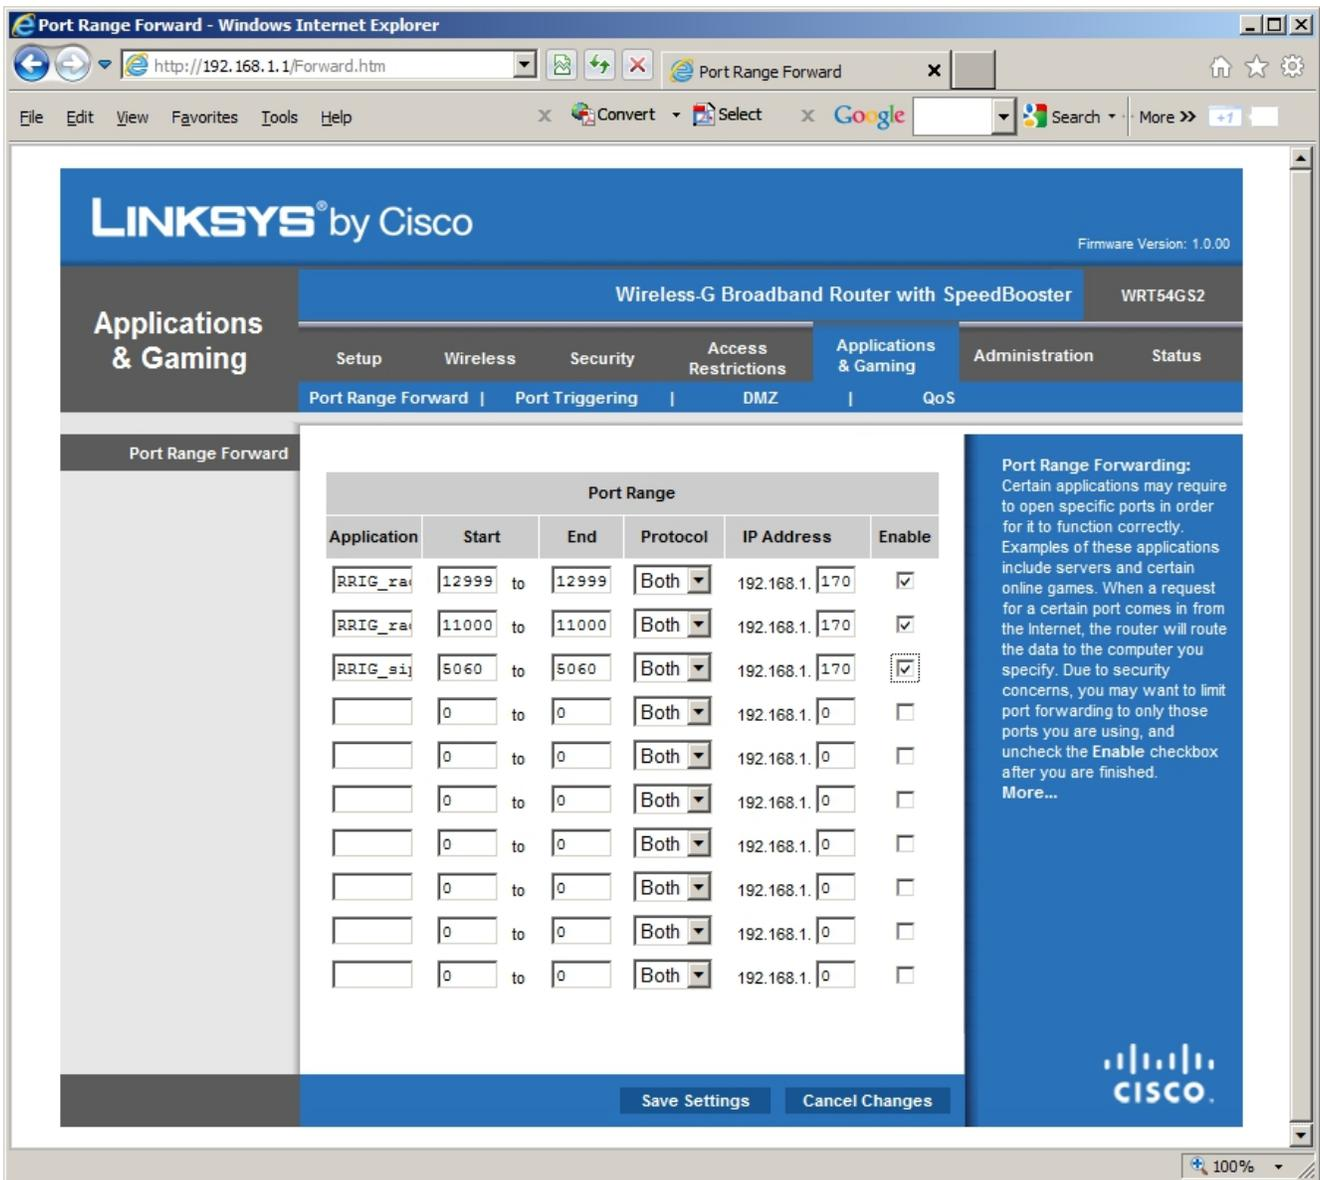

Figure 8
- Locate the port forwarding page. On the Linksys router, this is under Applications and Gaming. With other routers, likely it will be under a similar heading. Enter the following data as shown in Figure 8. Be sure to check Enable for each entry, and then click on Save Settings to save the changes.